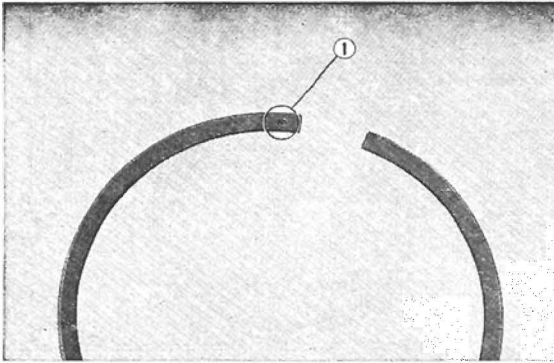

Fig. 3.72 Identifying upper and lower surfaces of the piston ring
- ① Oil filter cover
- ② To upper crank case
- ③ From lower crankcase
- ④ Oil filter cover
- ⑤ 57.8×6.2 O-ring
- ⑥ Oil guide metal spring
- ⑦ Oil guide metal
- ⑧ Oil guide metal stop ring
- b. The rings must not be installed upside down; this will cause oil pumping. The top side of the ring is etched at the end with the initial of the manufacturer's name. (Fig. 3.72)